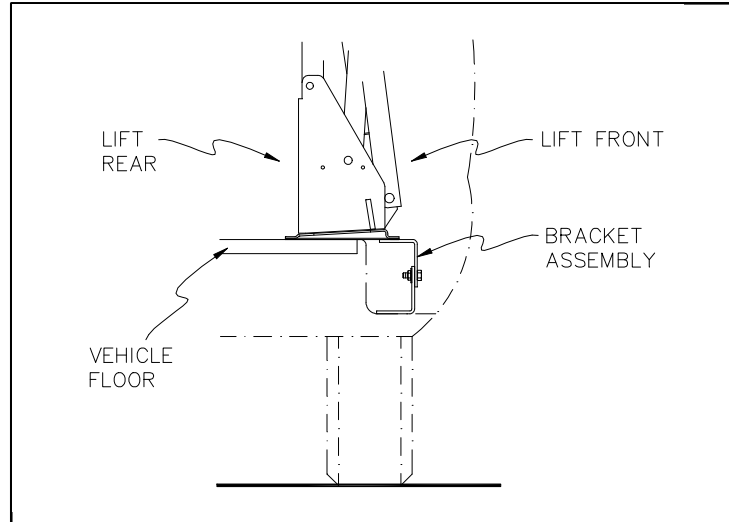

FIGURE 2-4: BRACKET ASSEMBLY
- d. Refer to **Figure 2-4**. With door(s) fully open, position lift in vehicle doorway so that back is supported by vehicle floor and front is supported by both bracket assemblies.